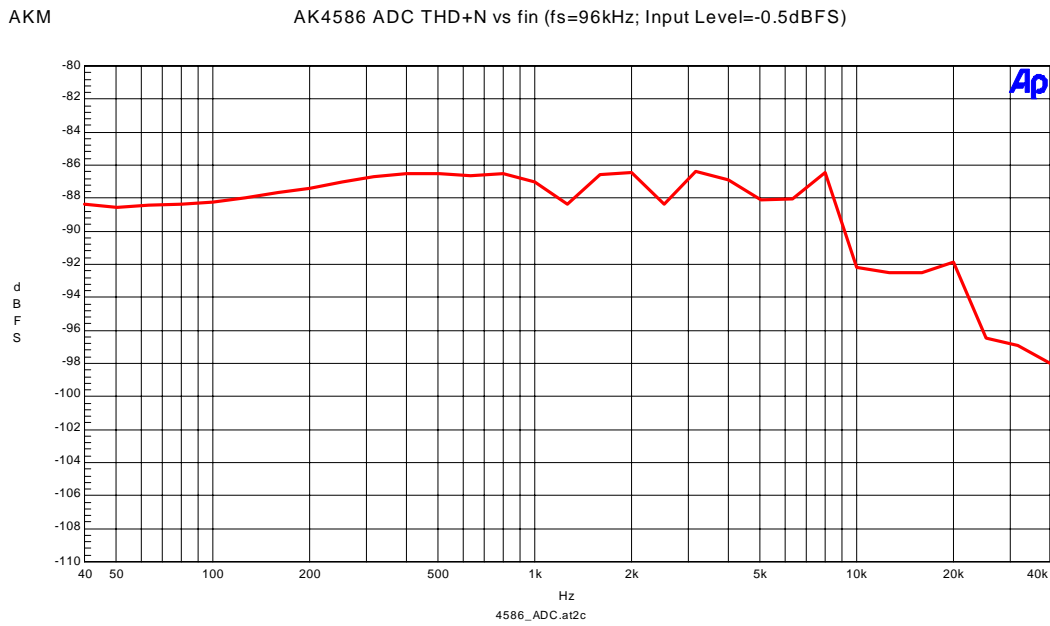

Figure 2-5. THD+N vs fin (Single-ended input, Input Level=-0.5dBFS)
- Figure 2-5. THD+N vs fin (Input Level=-0.5dBFS)